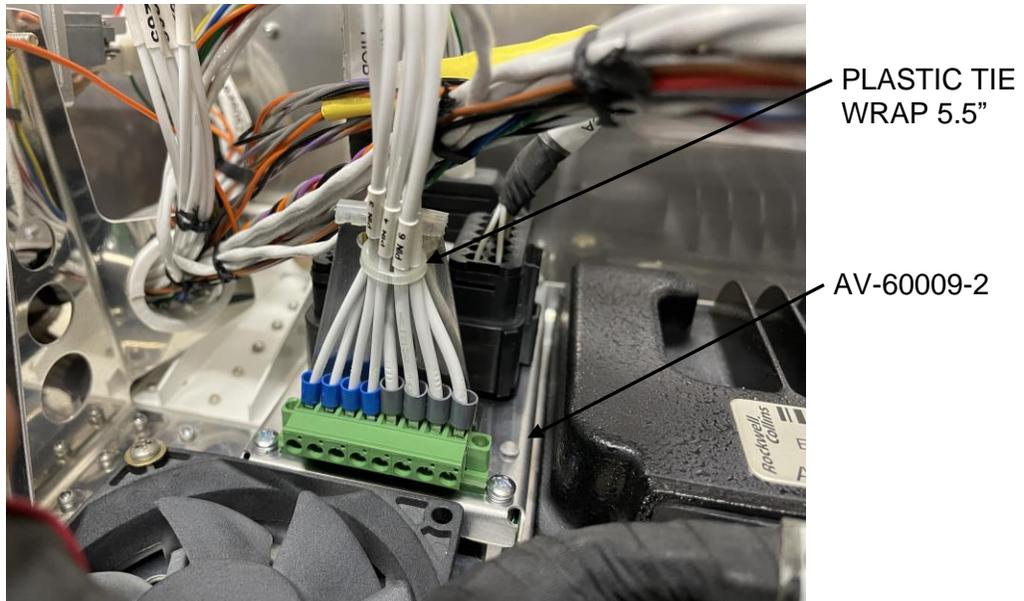

FIGURE 4: ATTACHING WIRES TO HIC MODULE
Step 11: Attach all wires to the HIC Module and install a PLASTIC TIE WRAP 5.5" for strain relief between the wires and the F-12335 HIC Harness Strain Relief. Refer to Figure 4, and KAI 42MiS/U-13 or 42MiS/U-41.